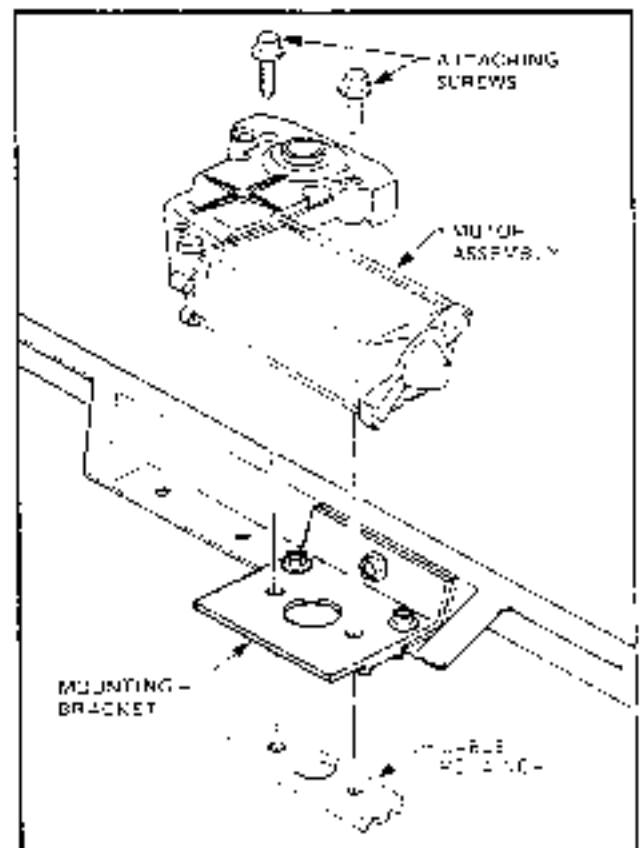

Figure 1A-79
3. Use small screwdriver or other suitable tool to remove 'C' clip attaching drive gear to motor shaft (refer Fig. 1A-76).